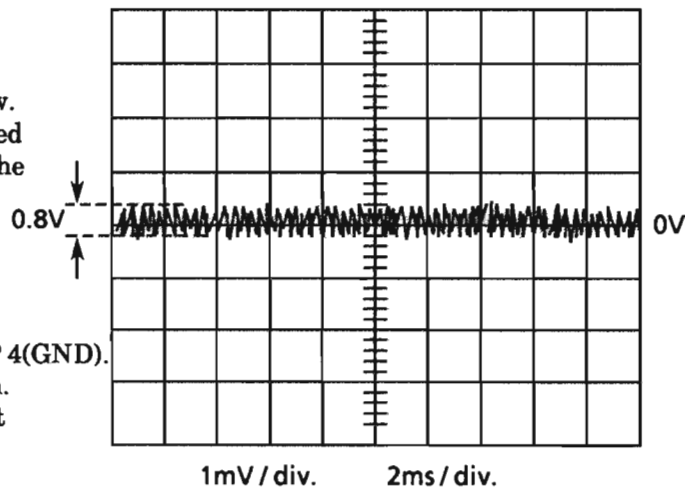

Figure 3
3. Adjust R704 (T.GAIN ADJ.) so that the correct waveform as shown in figure 3 is obtain.